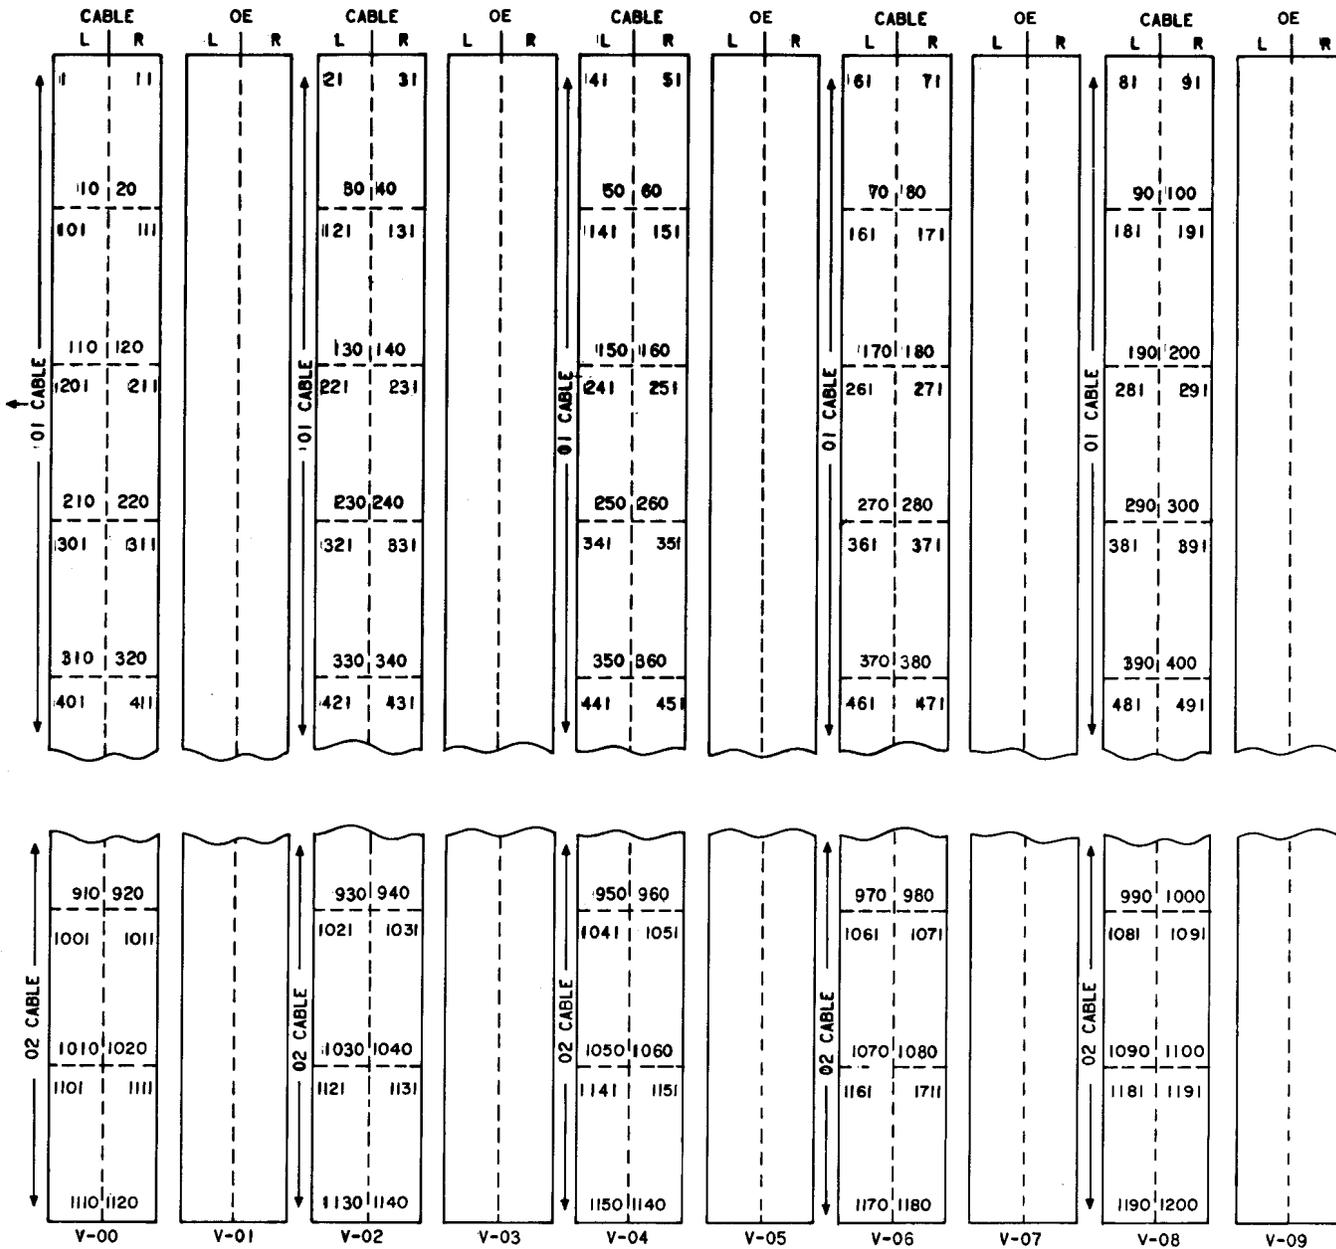

Fig. 2—Partially Equipped Combined Distributing Frame Module Showing Cable and Terminal Equipment Terminations
2.05 A module consists of ten verticals (Fig. 2). These verticals, numbered 00 through 09, are
(c) Vertical 00 left of module 00 has no line equipment for a short cross-connect away. Therefore, spread the assignment equally over OE in verticals 01L to 09R. This is done in the following manner for Fig. 2: